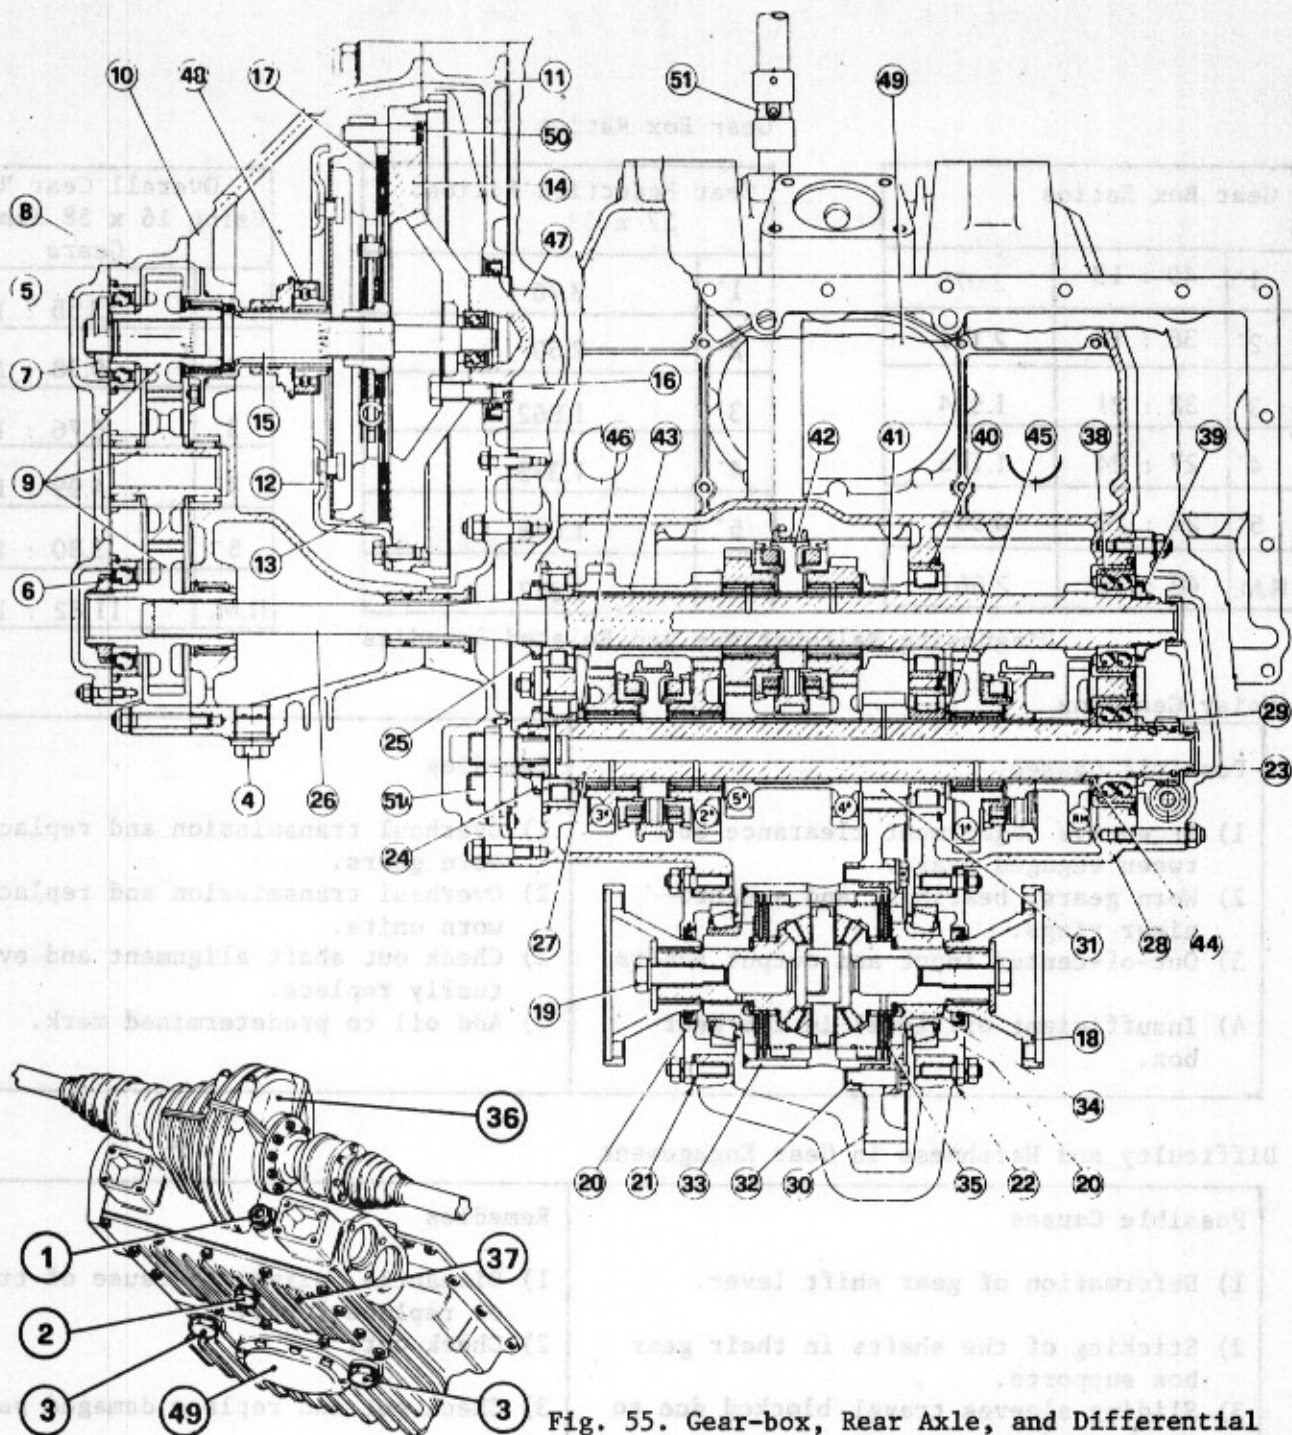

Fig. 55. Gear-box, Rear Axle, and Differential
- Mark reference points on the clutch cover and clutch 12 so that they may be replaced in the same position in order to avoid altering the balance (fig. 55).
- Unscrew the clutch cover bolts and remove pressure plate 13 (joined to the clutch cover) and the driven disc 17 (fig. 55).
- For the removal of the actuating gears, roller and ball bearings, and spacer washer, remove cover 5, unscrew ferrules 6-7 and remove the gear housing 8 from the clutch bell housing (fig. 55).
Before reinstalling the clutch, check the working operation of the clutch shaft 15 ball bearing and its position on the engine crankshaft (fig. 55).
--Place complete engine and clutch unit on rotating stand AV617 and drain the gear box oil from tap 2 (fig. 55), drain engine from taps 3 or remove cover 49, drain control gears oil through tap 4.
- Then tighten ferrules 25 and 39 of the input shaft to 13 Kg. torque, and the output shaft to 20 Kg. torque (fig. 55).